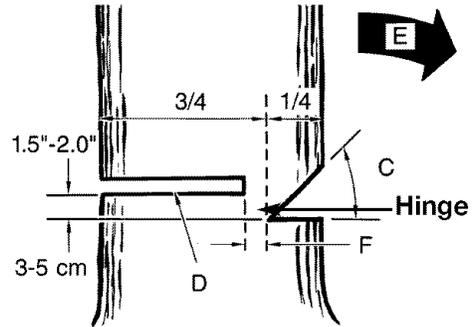

Fig. 9
Normally felling consists of 2 main cutting operations, notching (C) and making the felling cut (D) (Fig. 9).
Start making the upper notch cut (C) on the side of the tree facing the felling direction (E). Be sure you don't make the lower cut too deep into the trunk (Fig. 9).
The notch (C) should be deep enough to create a hinge (F) of sufficient width and strength. The notch should be wide enough to direct the fall of the tree for as long as possible (Fig. 9).
Make the felling cut (D) from the other side of the tree and 1.5 - 2.0 inches (3-5 cm) above the edge of the notch (C) (Fig. 9).